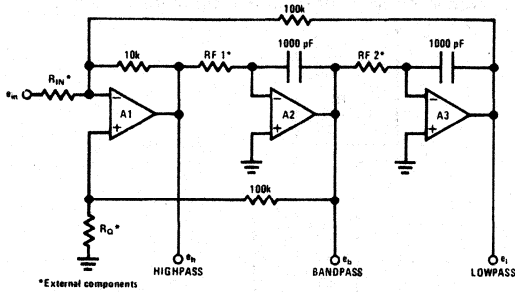

FIGURE 4. Inverting Input
c) Inverting input (Figure 4) transfer function equations are: